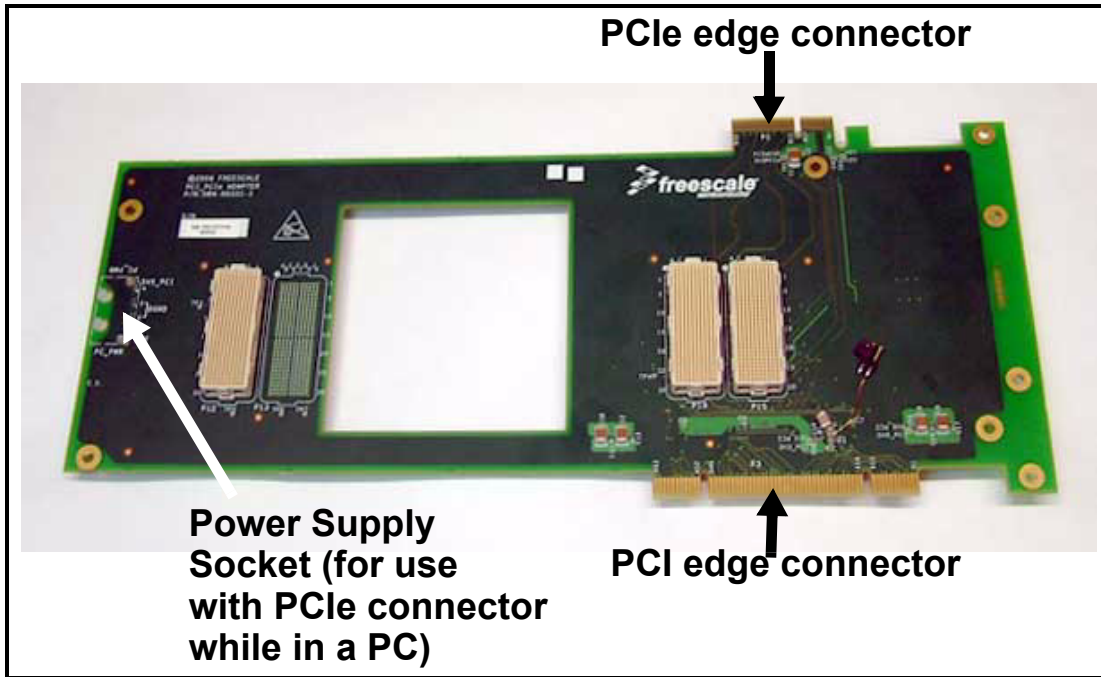
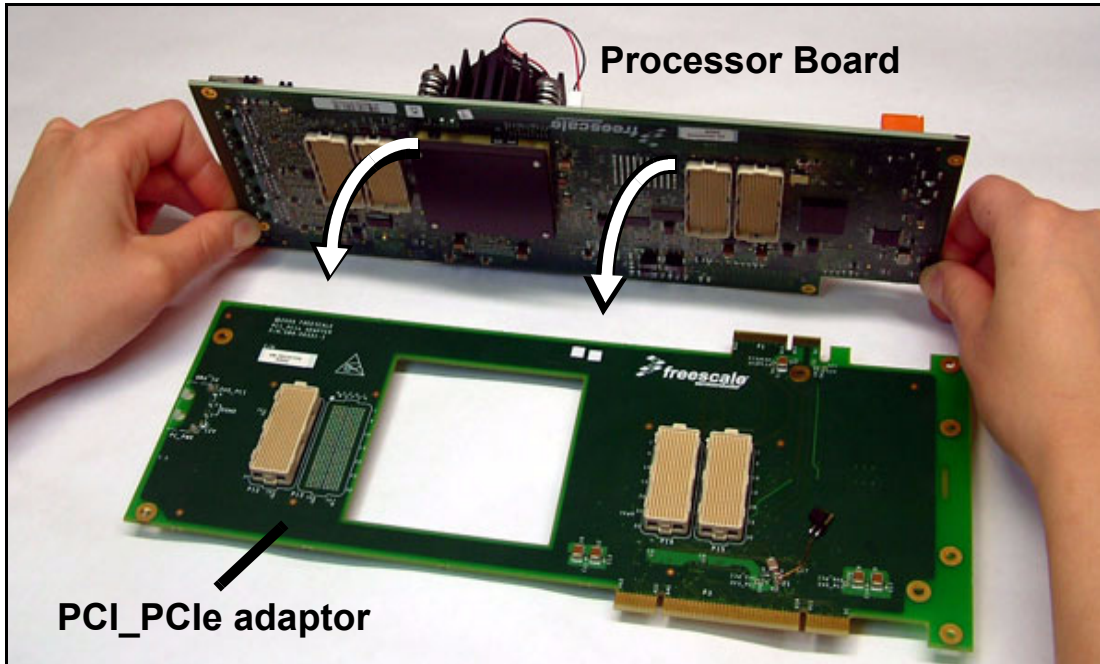
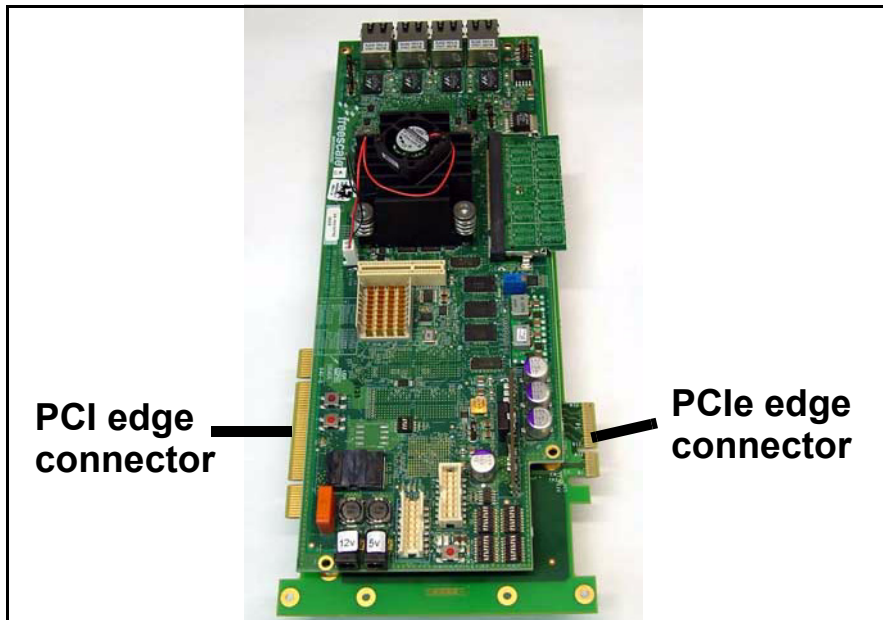

Figure 2-16. PCI\_PcIe adaptor
Figure 2-17. Fastening the PCI\_PcLe adaptor to the MPC8568E MDS Processor Board
Figure 2-18. PCI adaptor attached to MPC8568E MDS Processor Board
2. Fasten the PCI\_PCIe adaptor (see Figure 2-16 on page 2-10) to the underside of the MPC8568E MDS Processor Board, as shown in Figure 2-17 on page 2-11 and Figure 2-18 on page 2-11.
- b) Fasten the PCI\_PCIe adaptor to the underside of the MPC8568E MDS Processor Board, as shown in Figure 2-17 on page 2-11 and Figure 2-18 on page 2-11.
2. Fasten the PCI\_PCIe adaptor to the underside of the MPC8568E MDS Processor Board, as shown in Figure 2-17 and Figure 2-18 on page 2-11.